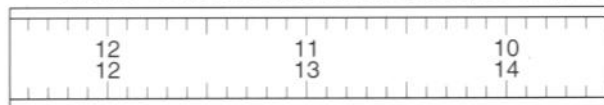

Fig. 27: Section of Right Ascension setting circle.
- **Right Ascension Setting Circle:** Since celestial objects move in Right Ascension the R.A. setting circle (Fig. 27) must be reset as each object is located during an observing session. The R.A. pointer is located on the drive base 90° *counterclockwise* from the telescope's computer